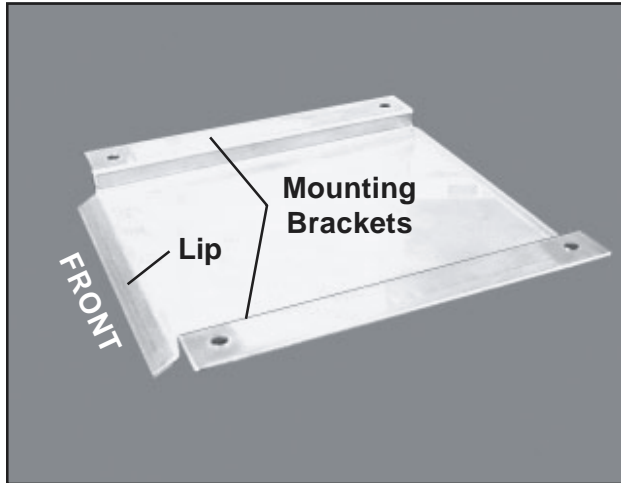

Figure 10. Cable Plate
1. Hold the cable plate so that the lip faces the front and the mounting brackets are on top (Figure 10).